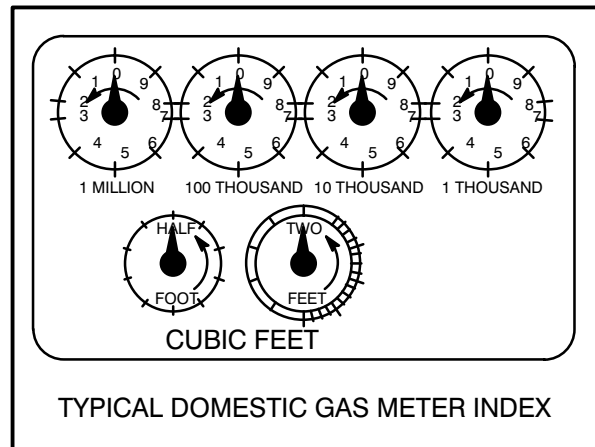

FIGURE 10
2. Using either the 1/2 cu. ft. or the 2 cu. ft. dials located on the gas meter, note the time it takes the indicator to complete one revolution. See FIGURE 10.